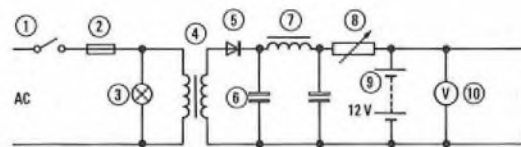

Fig. 1
Q. 10. (a) List the descriptions of the numbered components in Fig. 1.